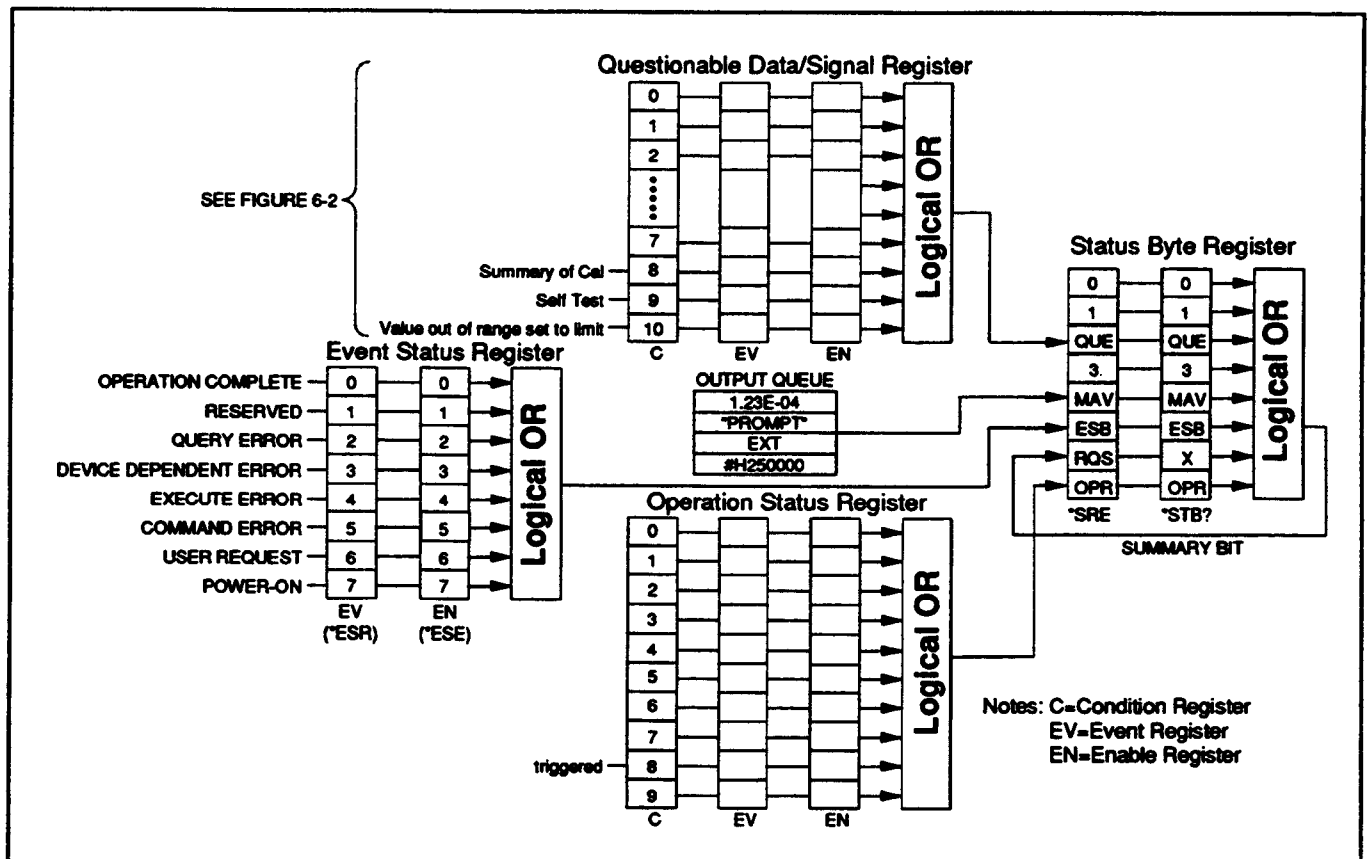

Figure 6-1. Oscilloscope STATUS Registers
The STATUS command subsystem enables you to examine the status of the Oscilloscope trigger, calibration, and self test results by monitoring (reading the bit value) the various register groups. Figure 6-1 shows the four STATUS Registers in the Oscilloscope.
**Standard Operation Status Register.** Operates under Oscilloscope control. The Operation Status Register (figure 6-1) is discussed in this section.